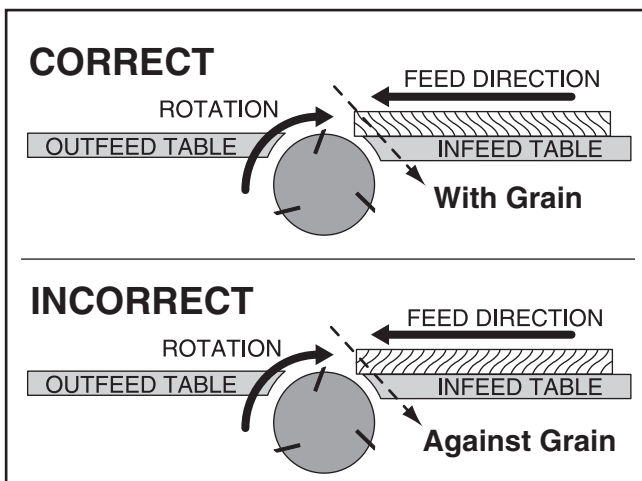
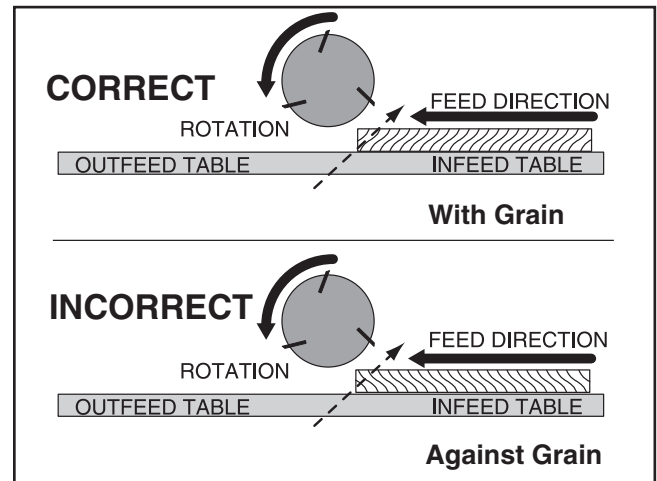

Figure 23. Correct and incorrect grain alignment to cutterhead (jointer).
Figure 24. Correct and incorrect grain alignment to cutterhead (planer).
- **Jointing and surface planing with the grain produces a better finish and is safer for the operator.** Cutting with the grain is described as feeding the stock so the grain points down and toward you on the jointer (**Figure 23**) or away from you on the planer (**Figure 24**), as viewed from the edge.